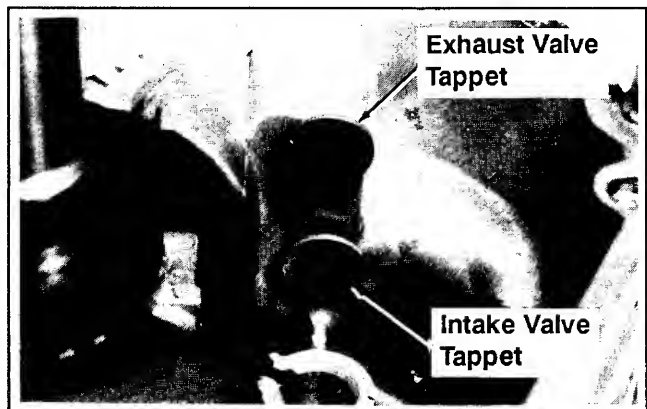

Figure 9-26. Removing Tappets.
2. Mark the tappets as either intake or exhaust. See Figure 9-26.